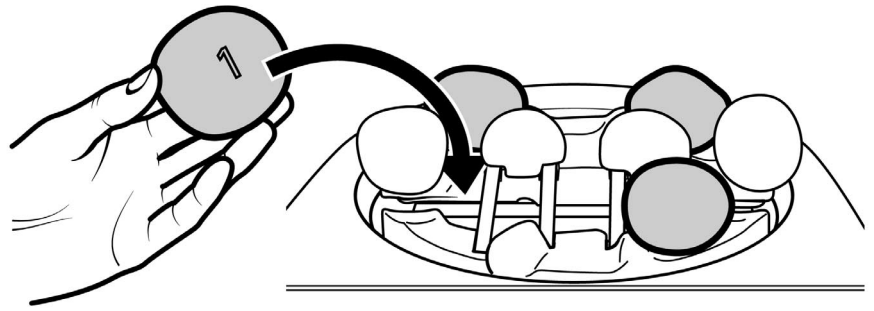

Figure 11 Pebble number '1' location
7. There are four pebbles numbered '1' on the underside. Locate these onto the pebble base at the ends of the outer left and right hand ceramic support rods (See figure 11). Leave a gap between pebble '3' and the pebble '1' as shown in figure 11. This will allow the pilot flame to be viewed.